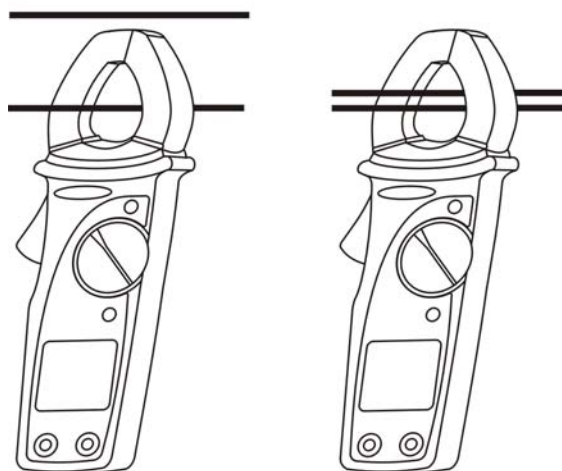

Fig. 6: Use of clamp during AC current measurement
2. Open the clamp and put the tested conductor in the center of the clamp jaw (see paragraph 4.1.2), considering the connection showed in Fig. 6.
4. Pressing the **R-H** key you can select manually the measurement ranges the measurement ranges in cyclic order. Press the **R-H** key 2 seconds at least to come back to AUTOMATIC range selection.